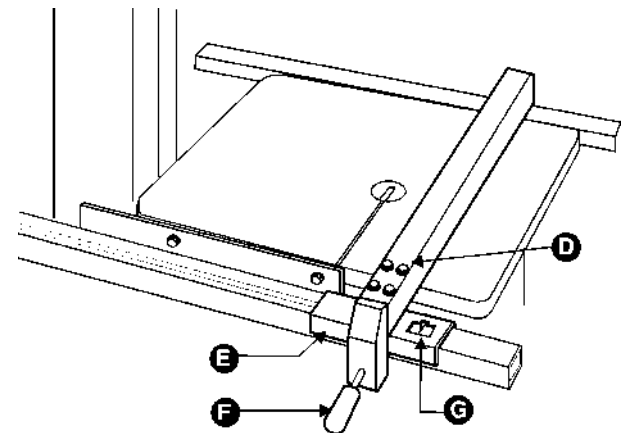
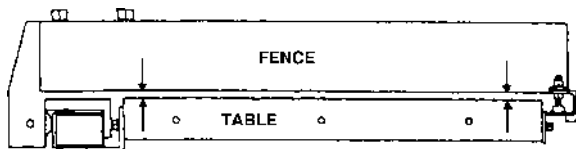

FIGURE 2
FIGURE 3
6. Attach the fence (D), Figure 2, to the fence body (E) with four 5/16" x 3/4" hex cap bolts, four 5/16" lock washers, and four 5/16" flat washers. Hand tighten only.
8. Lock the fence by pushing the lock handle (F) down.
10. Move the fence assembly so that the pointer (G) on the fence body points to zero on the guide rail.
13. Check the clearance between the table and the fence. The gap should be the same at the front of the table as it is at the rear. See Figure 3. If the gap width is different, adjust the foot at the rear of the fence until the gap width is the same.